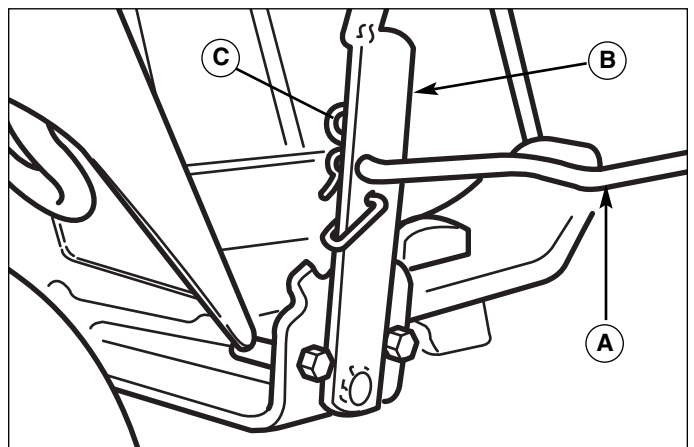

Figure 22. Installing Lift Rod to Manual Lift Lever
3. Connect rear of lift rod (A, Figure 22) to manual lift lever (B), and secure with spring clip (C).